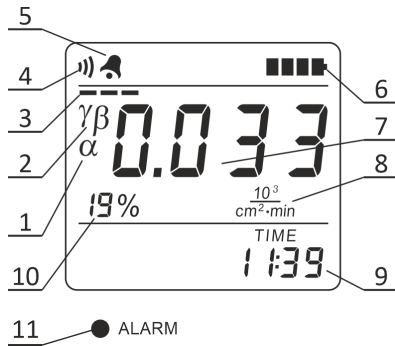

Figure 2.10 – LCD of the radiometer
2.3.3.8.8 When measuring intensity characteristics of alpha radiation, the LCD of the radiometer displays the following information (Figure 2.10):
- estimated limit of statistical deviations (10) of the measurement result (7);
- “ $\alpha$ ” symbol (1) - an indication of the measured radiation type;
- “ $\gamma\beta$ ” symbol (1) - is displayed if the measurement takes place without subtraction of gamma-beta radiation component;
- instantaneous value indicator (3);
- sound symbol (4) (if sound signaling of detected gamma quanta, beta and alpha particles is switched on);
- alarm clock symbol (5) (if the alarm clock is on);
- battery status symbol (6);
- measurement result (7);
- dimension of measurement result (8)  $10^3/(\text{cm}^2 \cdot \text{min})$ , cps or faded away, if the dimension is  $\text{Bq}/\text{cm}^2$ ;
- current time (9).
If surface activity measurement is carried out in  $\text{Bq}/\text{cm}^2$ , then “Act” characters are periodically displayed on the LCD of the radiometer and the dimension of the measurement result goes blank (8) (Figure 2.10).